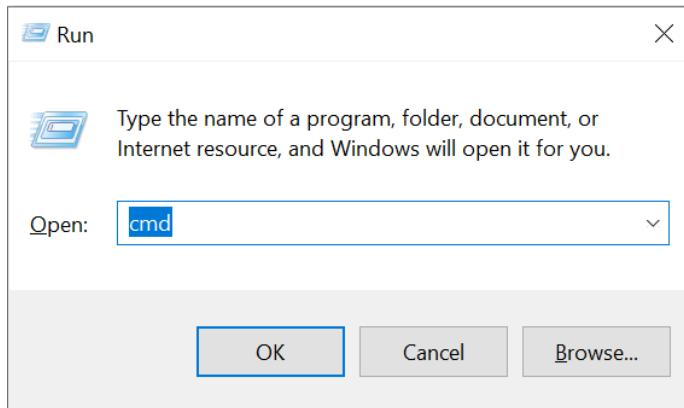

Figure 3.29: Launching the Command Prompt on Windows
1. Launch the Command Prompt. Press the Windows key+R together. A window, as shown in Fig. 3.29 appears. In the text box adjacent to Open, type `cmd`, and press Enter. The Command Prompt, as shown in Fig. 3.30 appears. By default, it points to the home directory.
1. Launch the Command Prompt, as shown in Fig. 3.29.